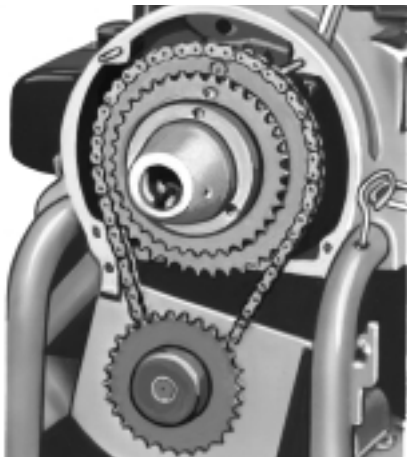

Figure 2 – Power Drive Chain on Large Sprocket
3. Set machine for low speed by shifting the **power drive chain** (*Figure 2*) to the large sprocket.